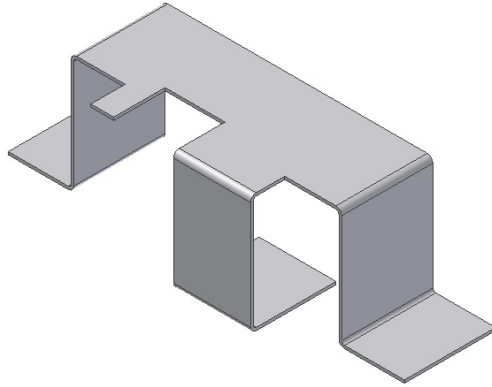

Figure 15-99 Sheet metal component after creating the contour flange
6. Accept the remaining default options and choose **OK** to create the flange. The sheet metal component after creating the third contour flange is shown in Figure 15-99.